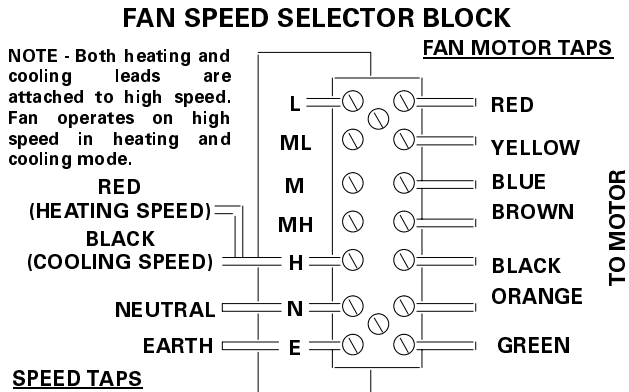

FIGURE 20
NOTE-In some applications it may be desirable to operate the the fan on high speed in both heating and cooling applications. In these instances connect the red lead and the black lead to the (H) terminal on the fan speed selector block. Refer to figure 20.